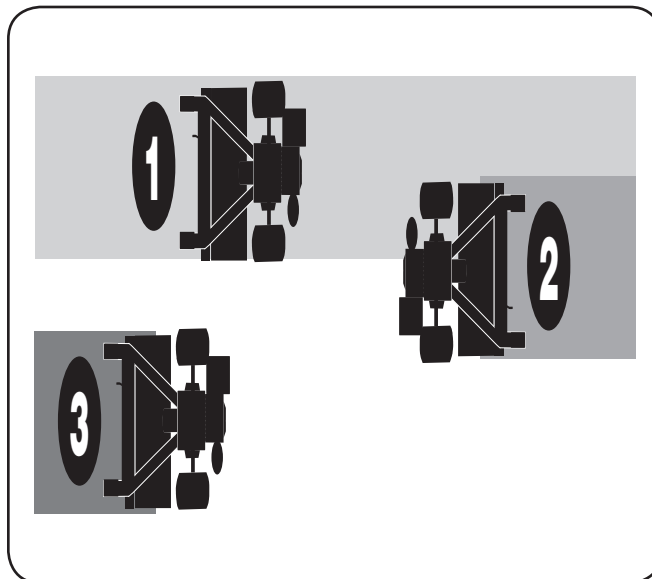

Figure 5-7
- If the garden size will not permit lengthwise and then crosswise tilling, then overlap the first passes by one-half a tiller width, followed by successive passes at one-quarter width See Fig. 5-7.